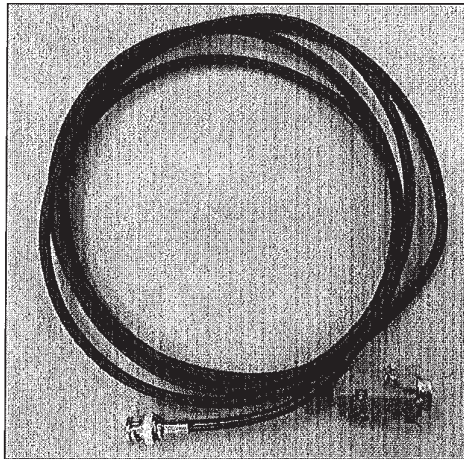

Figure 7.3: BNC – D-sub connector cable
Function generator is required when speed signal is needed. It will produce a simulated signal which replicate actual speed sensor signal in the train. The parameter must be set according to Table 7.1. The BNC – D-Sub connector (Figure 7.3) is used to linking this equipment to test bench's panel.
- 3) Connect Service PC directly to BCU using appropriate cabling (Figure 7.3). Then call MT32.exe software.